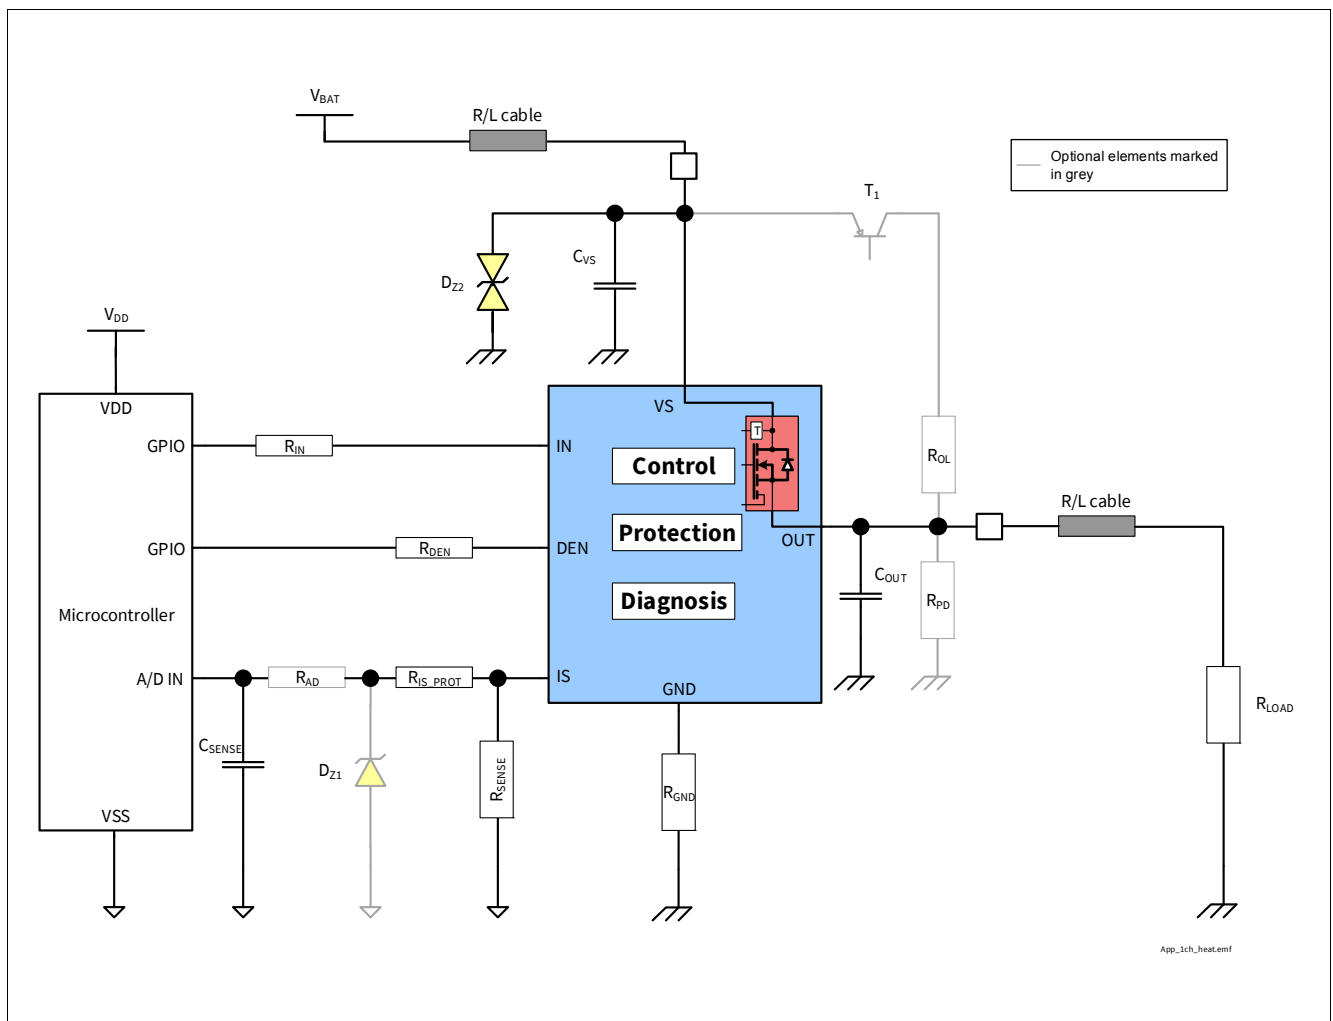

Figure 37 BTS7008-1EPP Application Diagram
1.01, 2018-06-14	<p>Page numbering corrected</p> <p>Figure 1, Figure 29, Figure 37 updated</p>